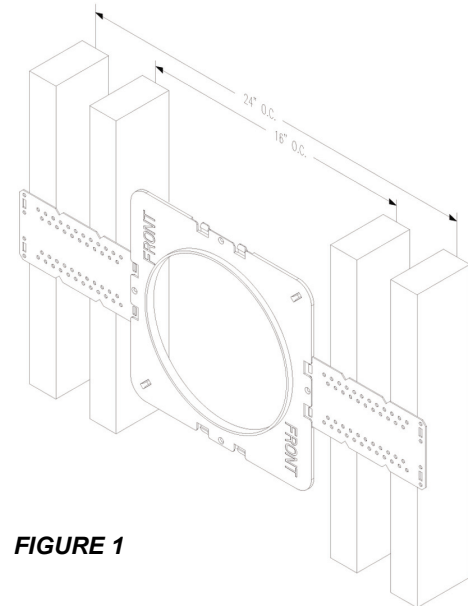

FIGURE 1
**Step 2.** Speaker mounting rings are used in the pre-construction phase of speaker installation during construction of new homes and additions. WG Series mounting rings are designed to provide drywall installers the correct cut-out pattern for the speakers. The mounting rings have "flaps" that are nailed/screwed/stapled onto the joist. See figure 1. Once the wall board is installed, the opening is cut out to mount the speaker.